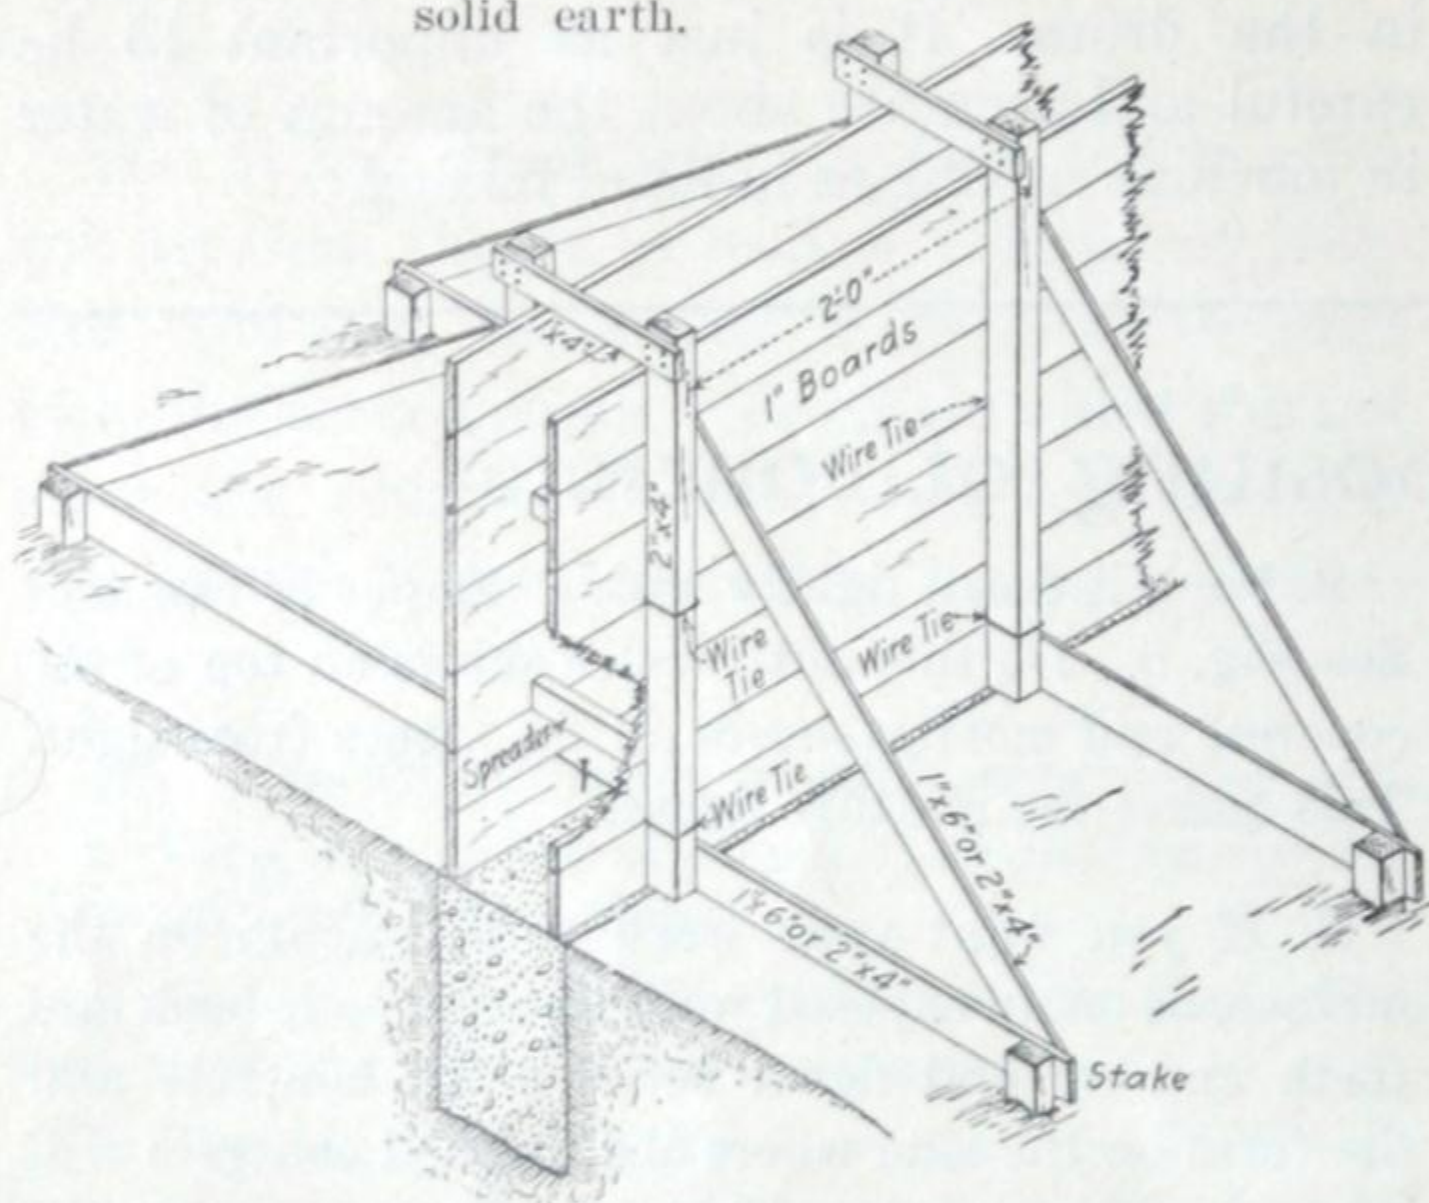

Fig. 10—Form for wall above foundation.
67. Figure 10 shows the method of bracing wall forms built on a footing already in place. Wires around the studding hold the forms together, and can be tightened to make the distance between the forms the exact thickness of the wall. Pieces of wood, called spreaders, each cut to a length equalling the thickness of the wall, are inserted to keep the walls the right width. They are knocked out as the concrete is poured.